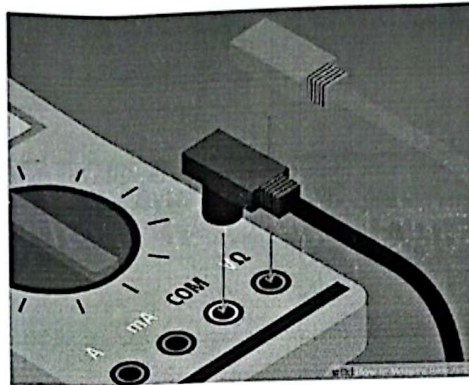

Figure 2: Plugging the probe into the correct socket of Multimeter.
- Plug the black lead into the socket labeled "COM" and the red lead into the socket labeled "ohm", as shown in figure 2.